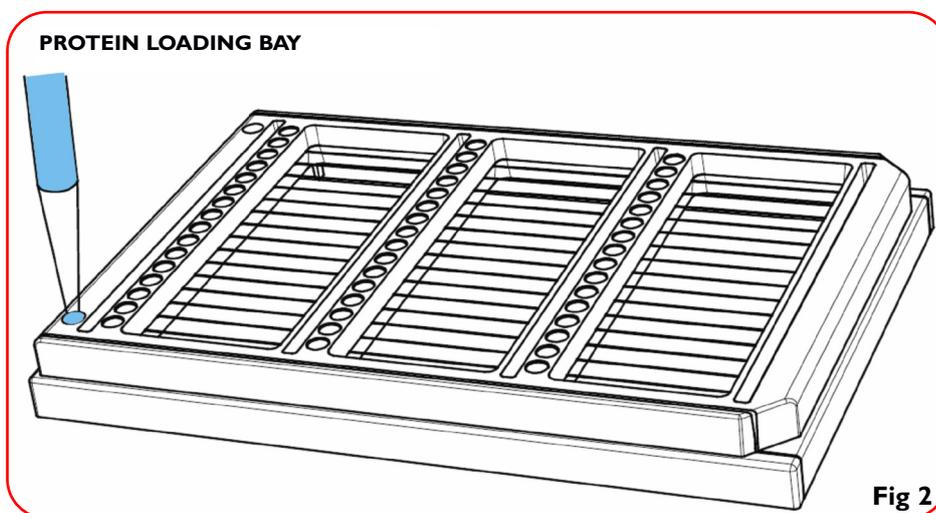

Figure 2
2. Pipette 22-23 μ l of protein solution into the lower protein loading bay located on the bottom left hand side of the plate (**Figure 2**).